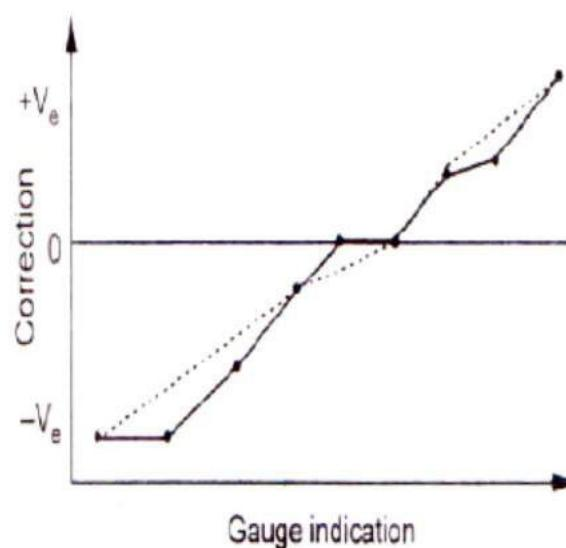

Figure 1.7 Correction curve
- The term median refers to the mean of a series of up and down readings. Quite often, the indicated values are plotted as abscissa and the Ordinate represents the Variation of the median from the true values. (**Fig.1.7**)